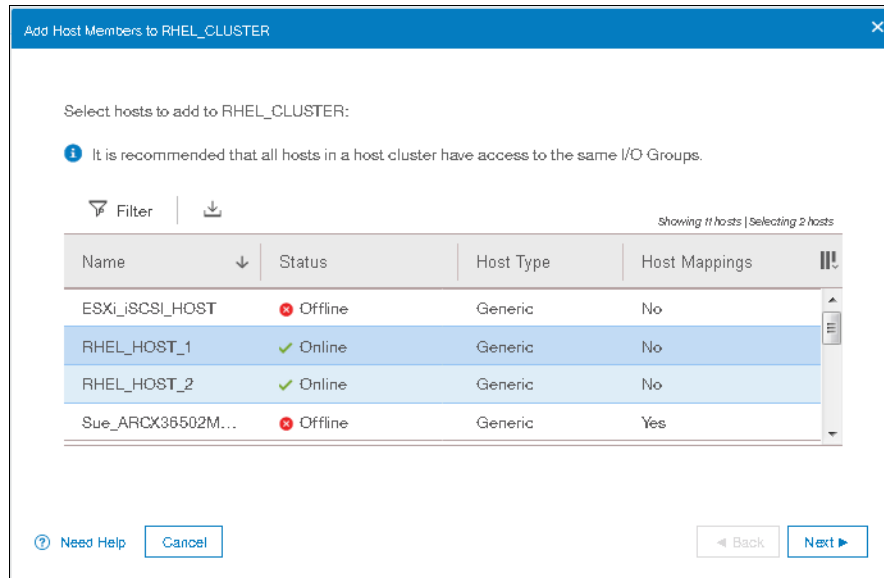

Figure 5-80 Selecting desired hosts
3. Select the desired hosts as shown in Figure 5-80 on page 250.